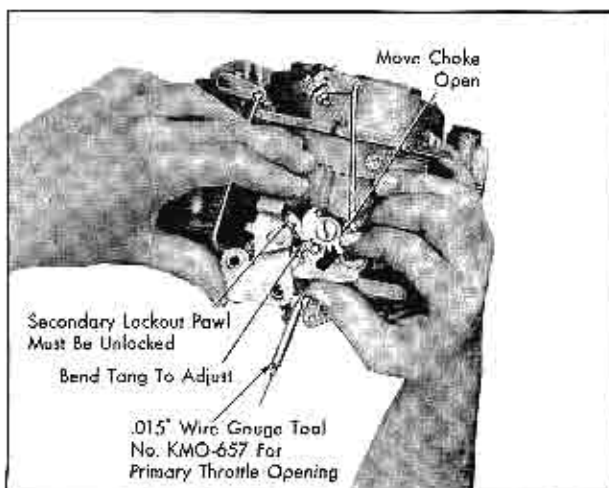

Fig. 12-39 Secondary Lockout Pawl Adjustment
wire gage, Tool No. KMO-657, and hold fast idle cam clear of adjusting screw. Wire gage should be on side of bore opposite idle ports. Refer to Fig. 12-39.
2. Observe whether secondary lockout pawl is moved to unlocked position. Adjust as required, using long-nosed pliers on the tang which contacts primary throttle lever just behind the fast idle screw, until lockout pawl just clears dowel in throttle body casting, as shown in Fig. 12-39.